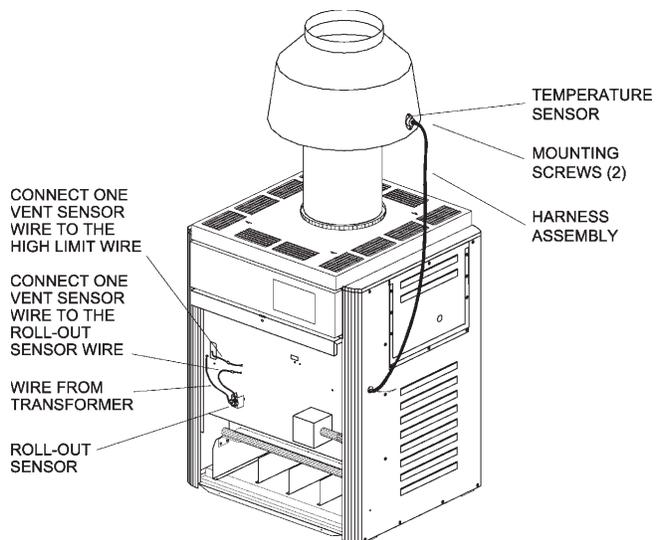

Fig. 12: Boiler After Draft Hood Installation—Models 181-401 & 182-400
- Mount draft hood on top of boiler as shown in Fig. 12. Draft hood should be positioned with the vent sensor located on the front right side as shown.